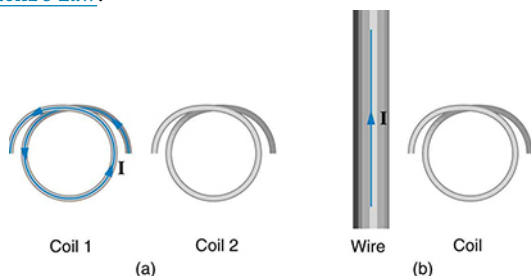

Figure 23.57 (a) The coils lie in the same plane. (b) The wire is in the plane of the coil
3. Referring to Figure 23.57\(a\), what is the direction of the current induced in coil 2: (a) If the current in coil 1 increases? (b) If the current in coil 1 decreases? (c) If the current in coil 1 is constant? Explicitly show how you follow the steps in the Problem-Solving Strategy for Lenz's Law.
4. Referring to Figure 23.57\(b\), what is the direction of the current induced in the coil: (a) If the current in the wire increases? (b) If the current in the wire decreases? (c) If the current in the wire suddenly changes direction? Explicitly show how you follow the steps in the Problem-Solving Strategy for Lenz's Law.
Approximately how does the emf induced in the loop in Figure 23.57\(b\) depend on the distance of the center of the loop from the wire?
(a) A lightning bolt produces a rapidly varying magnetic field. If the bolt strikes the earth vertically and acts like a current in a long straight wire, it will induce a voltage in a loop aligned like that in Figure 23.57\(b\). What voltage is induced in a 1.00 m diameter loop 50.0 m from a $2.00 \times 10^6 \text{ A}$ lightning strike, if the current falls to zero in $25.0 \mu\text{s}$? (b) Discuss circumstances under which such a voltage would produce noticeable consequences.